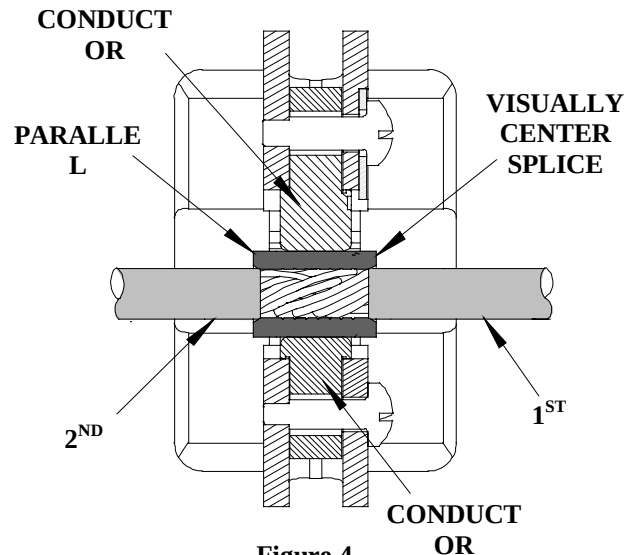

Figure 4
- When crimping parallel splices insert the first wire into one end of splice then insert the second wire into the opposite end of the parallel splice. This procedure will crimp both wires at the same time. Make sure the wires are fully seated into the parallel splice. Position the splice and the wires in the nest with conductor crimp on the conductor barrel of the splice. The splice should be approximately centered inside the tooling nests. See Figure 4. Cycle the tool.